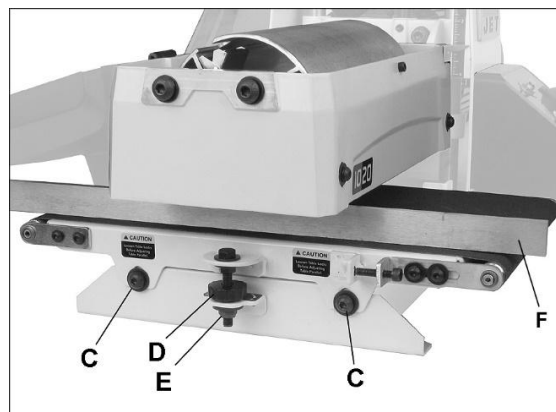

Figure 8-3: drum alignment
3. Position gauge (F, Figure 8-3) between drum and conveyor table at outboard side of drum.
1. Loosen both table locking screws (C, Figure 8-3) with 5mm hex wrench.
To e.g. *raise* outboard end of table, loosen lock nut (E, Figure 8-3) and rotate knurled nut (D, Figure 8-3) clockwise (+).